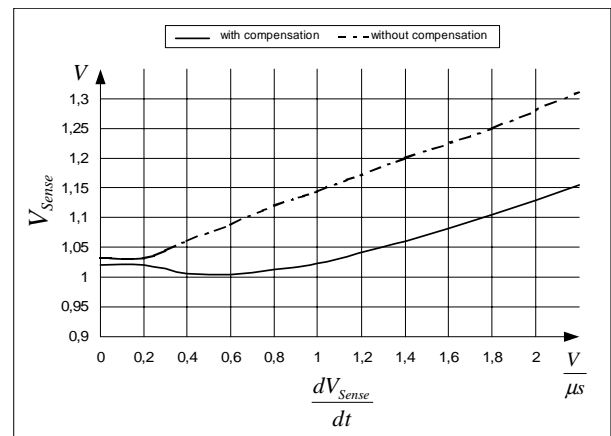

Figure 16 Overcurrent Shutdown
So current limiting is now capable in a very accurate way (see Figure 16).
E.g. $I_{peak} = 0.5A$ with $R_{Sense} = 2$. Without propagation delay compensation the current sense threshold is set to a static voltage level $V_{csth} = 1V$. A current ramp of $dI/dt = 0.4A/\mu s$, that means $dV_{Sense}/dt = 0.8V/\mu s$, and a propagation delay time of i.e. $t_{Propagation Delay} = 180ns$ leads then to a I_{peak} overshoot of 12%. By means of propagation delay compensation the overshoot is only about 2% (see Figure 16).